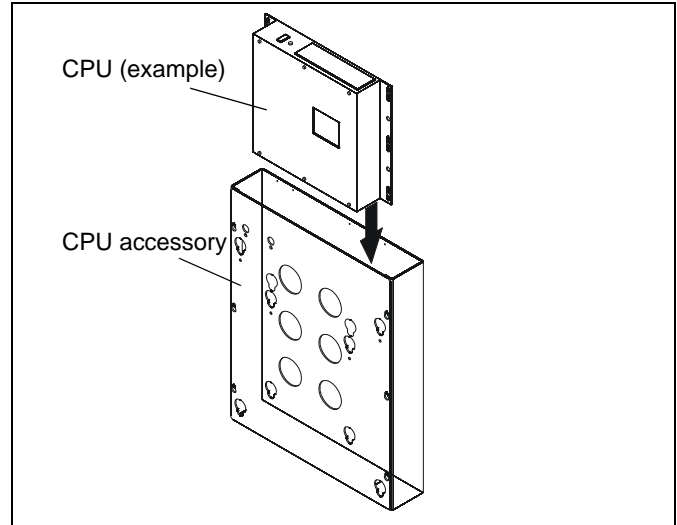

Figure 4
1. Install any required components into CPU Box keeping in mind cable location and weight limits. (See Figure 4)